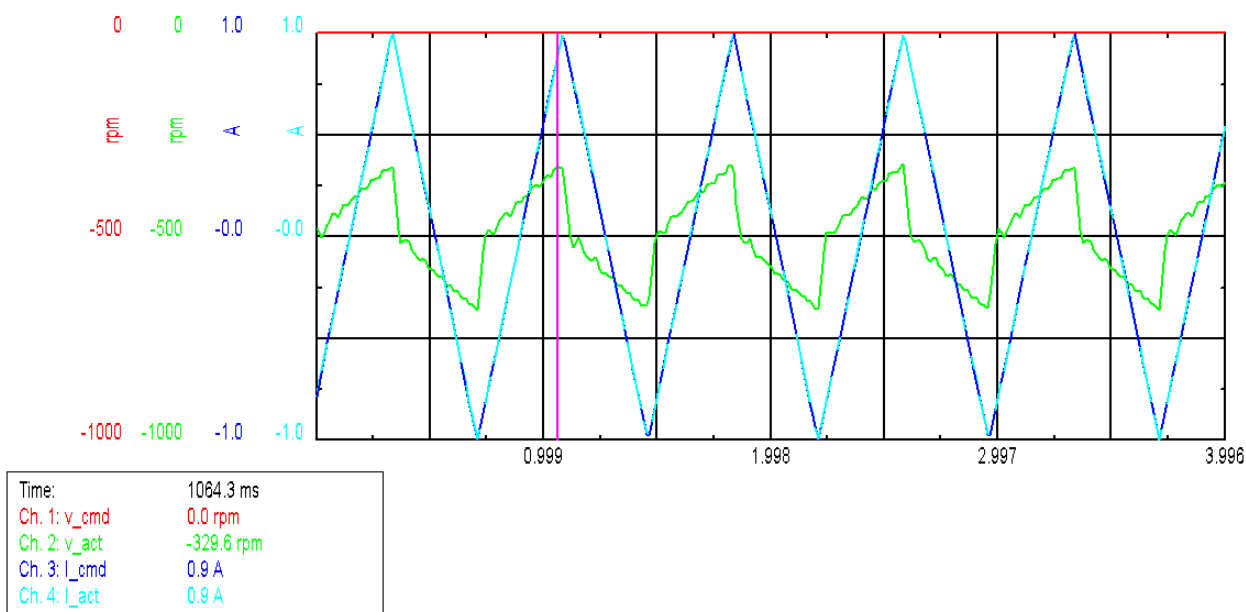

Figure 0.12: Profile of load torque
- And fast transition of the load, in this case 750ms (see Fig. 0.12)